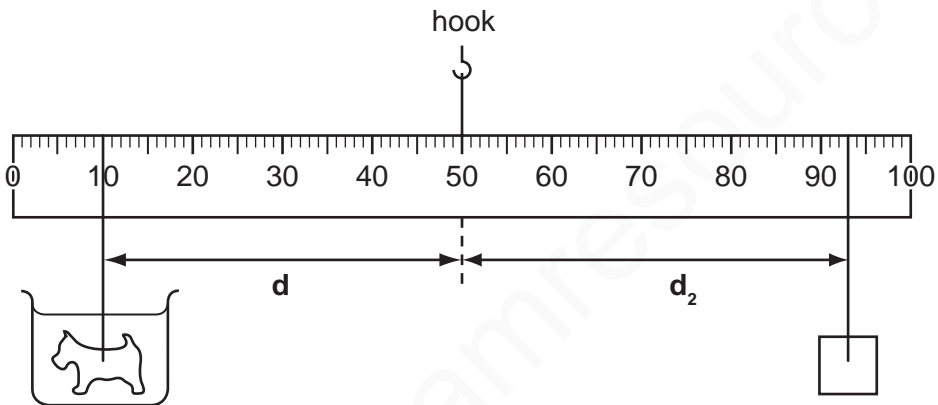

Fig. 6.4
- (ii) The experiment is repeated, but this time the toy dog is immersed in a large beaker of water, as in Fig. 6.4.